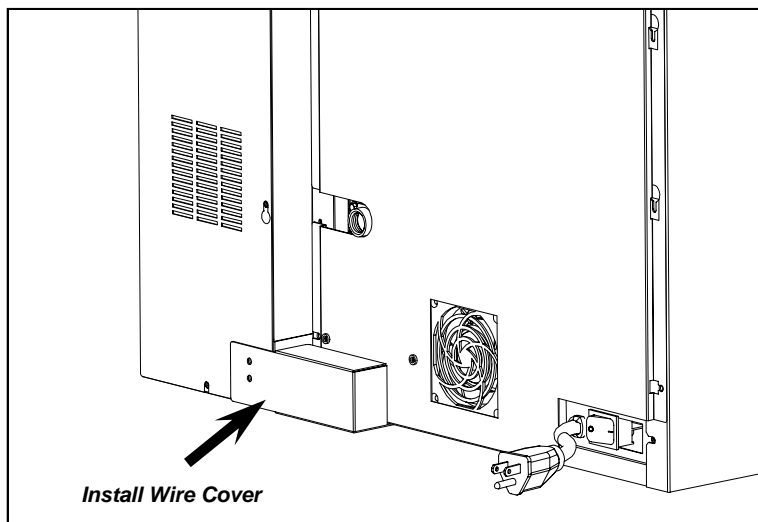

Figure 11 – Install the wire cover bracket.
3. Place the wire cover bracket over the APP wiring exiting the rear of the machine and over the APP connector on the sidocar unit (Figure 11).